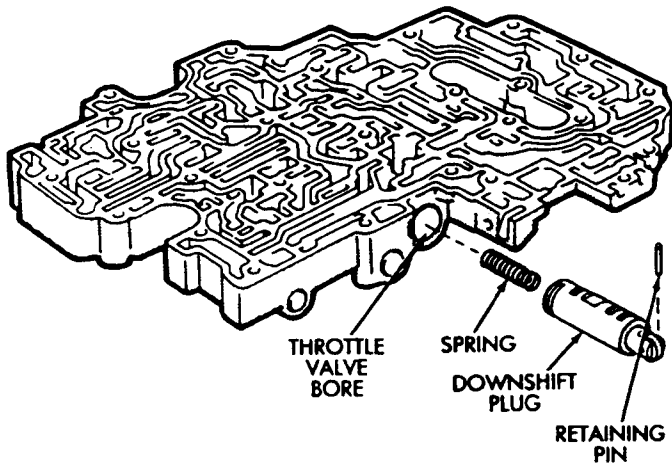

Fig. 19 Installing Downshift Plug
(14) Install downshift spring and plug in throttle valve bore. Press plug inward against throttle valve and spring and install the retainer pin (Fig. 19).